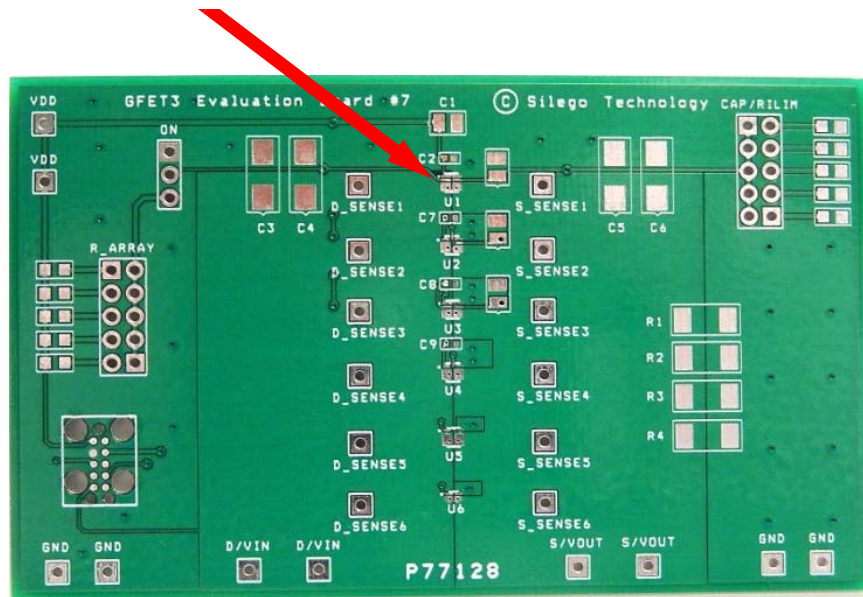

Figure 5. SLG59M1657V Evaluation Board
2. Since the D and S pins dissipate most of the heat generated during high-load current operation, it is highly recommended to make power traces as short, direct, and wide as possible. A good practice is to make power traces with an absolute minimum widths of 15 mils (0.381 mm) per Ampere. A representative layout, shown in Figure 5, illustrates proper techniques for heat to transfer as efficiently as possible out of the device;
A GFET3 Evaluation Board for SLG59M1657V is designed according to the statements above and is illustrated on Figure 5. Please note that evaluation board has D_Sense and S_Sense pads. They cannot carry high currents and dedicated only for RDS_{ON} evaluation.